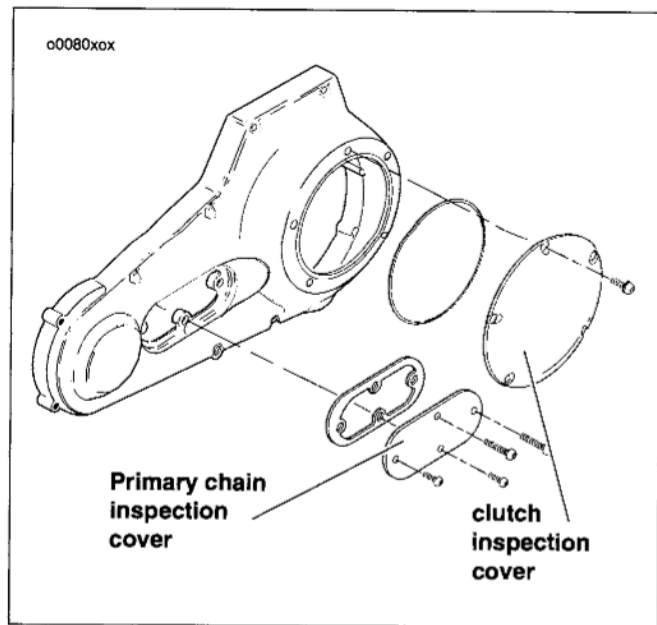

Figure 40. 1450cc Primary Chaincase
2. See Figure 40. Remove screws and washers that secure clutch inspection cover.